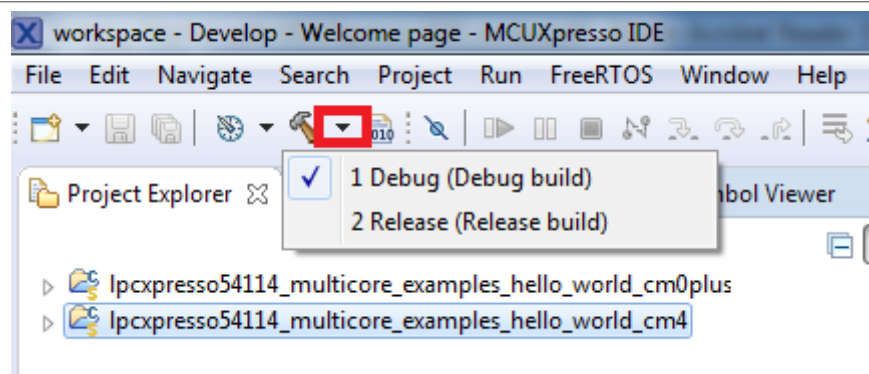

Figure 11. Selection of the build target in MCUXpresso IDE
3. Now, two projects should be imported into the workspace. To start building the multicore application, highlight the `lpcxpresso54114_multicore_examples_hello_world_cm4` project (multicore master project) in the Project Explorer. Then choose the appropriate build target, **Debug** or **Release**, by clicking the downward facing arrow next to the hammer icon, as shown in Figure 11. For this example, select **Debug**.